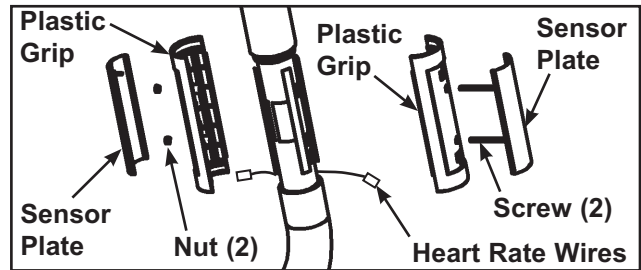

Figure 2
A. With a flat head screwdriver, carefully pry off each metal sensor plate from grip and disconnect both heart rate wires. See Figure 2.
B. Using a Phillips screwdriver, remove the two screws and two nuts securing the grip in place. See Figure 2.